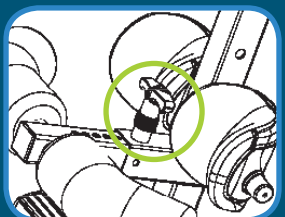

Figure 9
- Adjust the front ankle clamps to make sure both the front and rear ankle clamps are snug against your ankles. Release the T-Pin Lock so that it fully engages a hole setting (Figure 9).